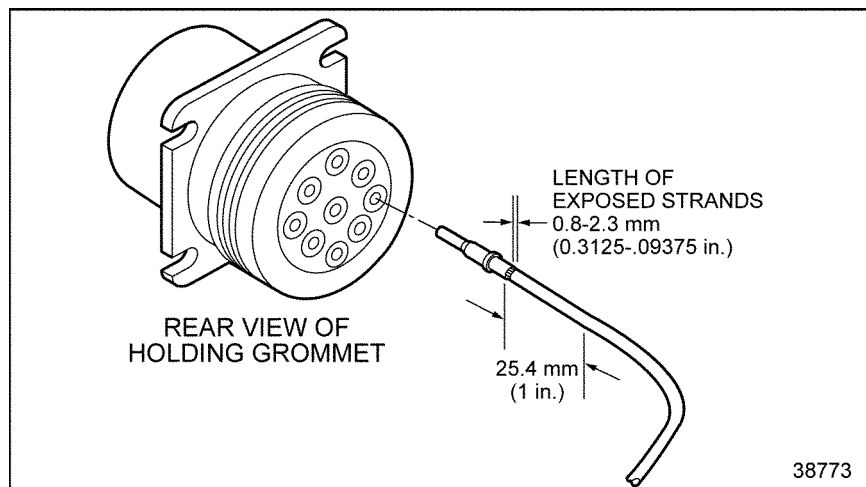
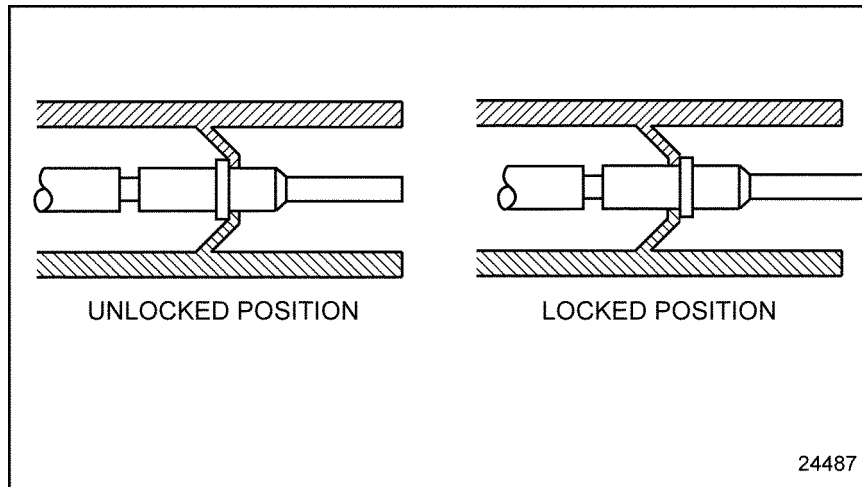

Figure 2-10 Pushing Contact Into Grommet
Figure 2-11 **Locking Terminal Into Connector**
5. Grasp the contact approximately one inch behind the contact crimp barrel. Hold the connector with the rear grommet facing you. See Figure 2-10.
6. Push the contact into the grommet until a positive stop is felt. See Figure 2-10. A slight tug will confirm that it is properly locked into place. See Figure 2-11.